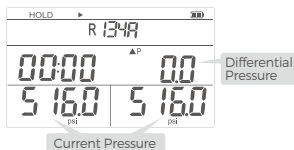

FIG.6 Stop the Pressure Leak Test Interface
4. End the leakage test: Press the to display the (Figure 6).